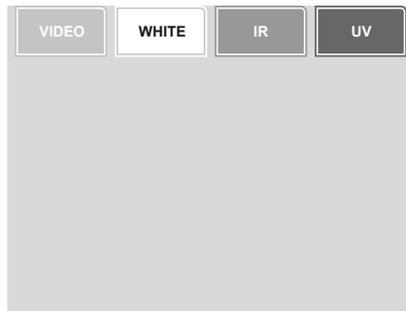
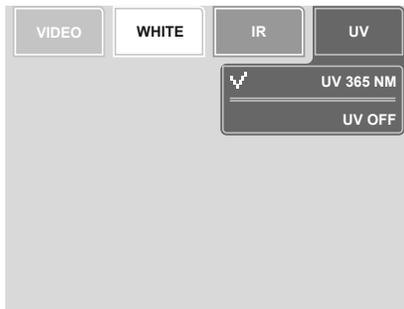

Рис. 2. Operation mode menu
Fig. 10. UV light switching on
At switching on the device, an operation mode menu containing four buttons, such as **VIDEO**, **WHITE**, **IR**, **UV** appears by default in the upper part of the display (see Fig. 2).
To select the illumination mode, you shall be in the operation mode menu (see Fig. 2). If it is necessary, call this menu by touching the free area of the screen.
Select one of the menu items: **WHITE**, **IR** or **UV** (see Fig. 2).
Place a banknote or a document on the device viewing table (4). Press UV in the operation mode menu (see Fig. 2). Select the UV 365 nm item in the opened submenu (see Fig. 10). The UV-marks on the document surface.